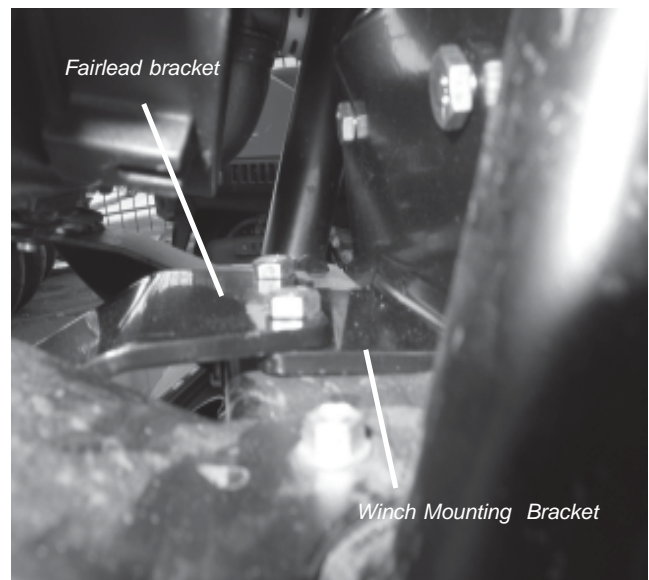

Figure 4
5. Place the fairlead bracket into position as shown in figure 4. the fairlead bracket will fit over top of the flange on the winch mounting bracket. Insert 2 of the 8mm hex bolts and flat washers through both brackets and into the frame on the atv. Finger tighten the 8mm hex flange nuts at this time. It is best to leave every thing as loose as possible at this point in the installation.